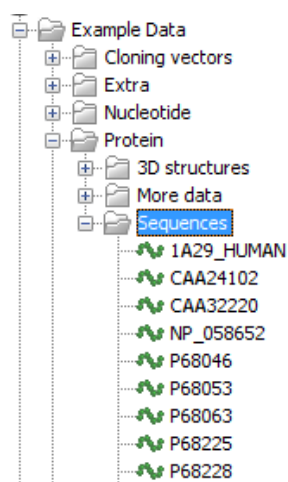

Figure 5.1: A folder hierarchy as seen through a CLC Workbench Navigation Area.
**Note:** To access a folder and its contents, a user must be a member of a group with read access to all the folders above it in the hierarchy. In the example shown in figure 5.1, to access the *Sequences* folder, the group must have access to both the *Example Data* and *Protein* folders.
It is fine to give write access to just the final folder in a hierarchy. For example, in the hierarchy shown in figure 5.1, read access could be granted to the *Example Data* and *Protein* folders, with read and write access granted to just the *Sequences* folder.